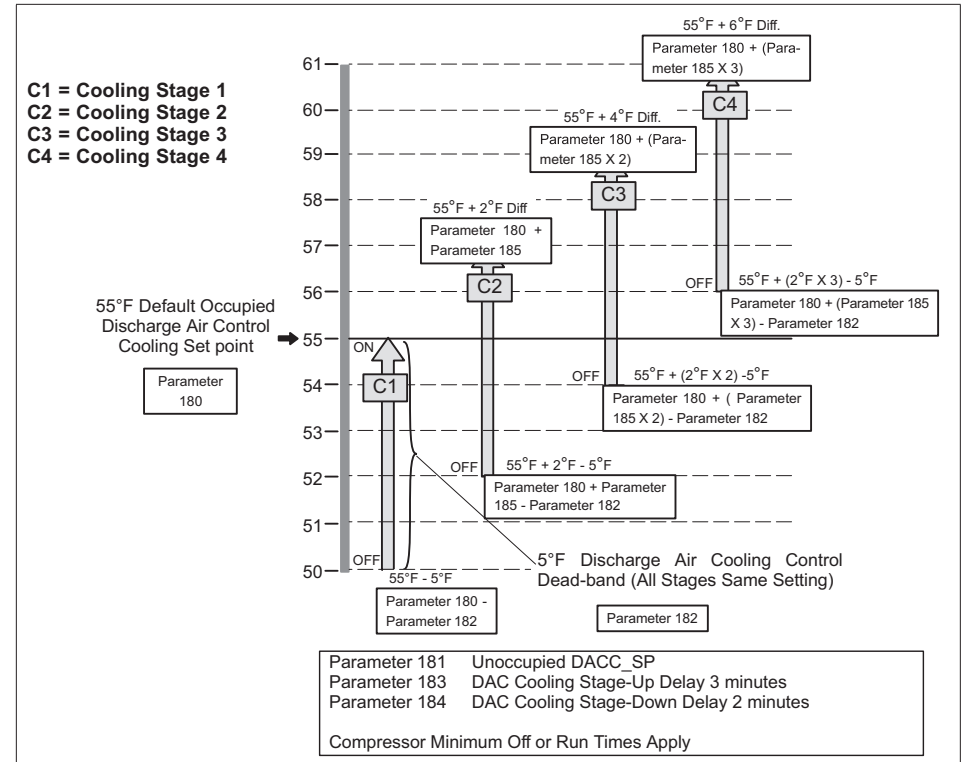

Figure 14. Discharge Air Control Cooling Stages - Default Values Shown
- Refer to “Figure 14. Discharge Air Control Cooling Stages - Default Values Shown” on page 51.
EXAMPLE: The application calls for the discharge air cooling occupied set point Parameter 180 to be 55°F when Outdoor Air Temperature is 80°F or higher. When the Outdoor Air Temperature drops below 80°F, the set point needs to increase proportionately with the Outdoor Air Temperature decrease (maximum set point increase of 10°F). The 10°F Outdoor Air Temperature decrease is called the Parameter 203 and the set point increase of 10°F is called the Parameter 201. See figure 14.